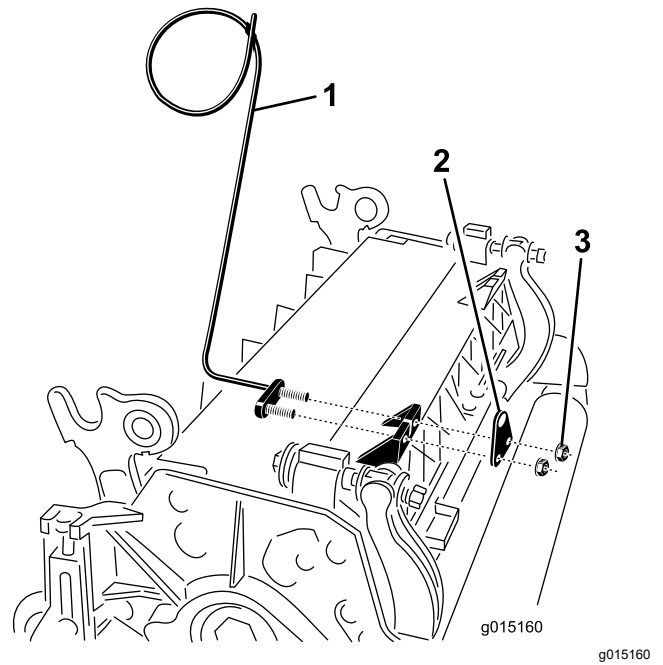

**Figure 11**
**Note:** The bolt head is to be positioned to the outer side of the tab as shown in Figure 11.
E. Mount the rod bracket to the cutting unit tabs with the carriage bolts and nuts (Figure 11). On the cutting unit, mount the left hose guide to the front of the cutting unit tabs when reinstalling the rod bracket (Figure 13).